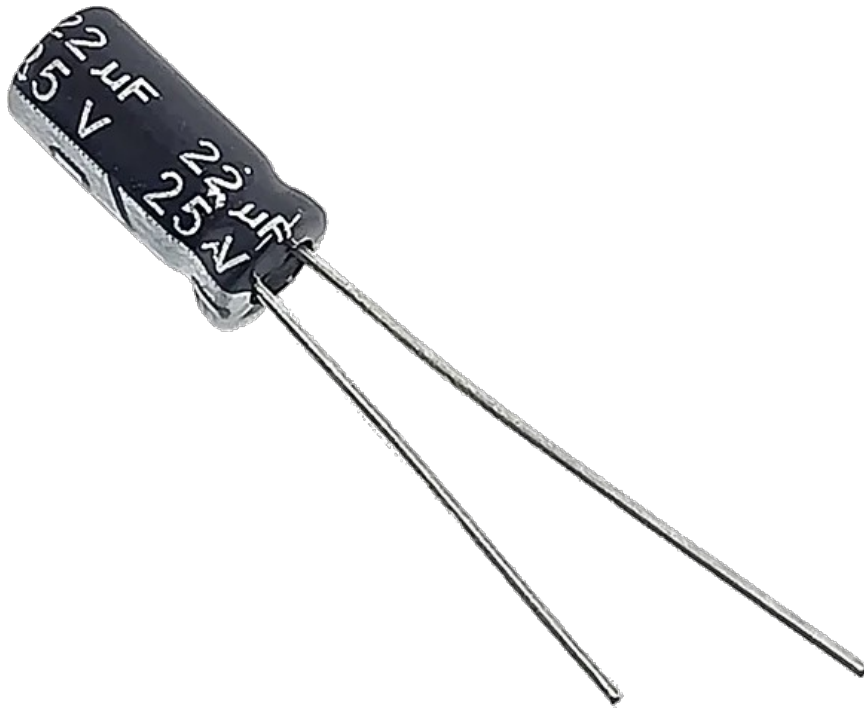

Figure 37: Electrolytic Capacitor
4. Explain: We will only be using electrolytic capacitors, as shown in Figure 37, in safe battery circuits